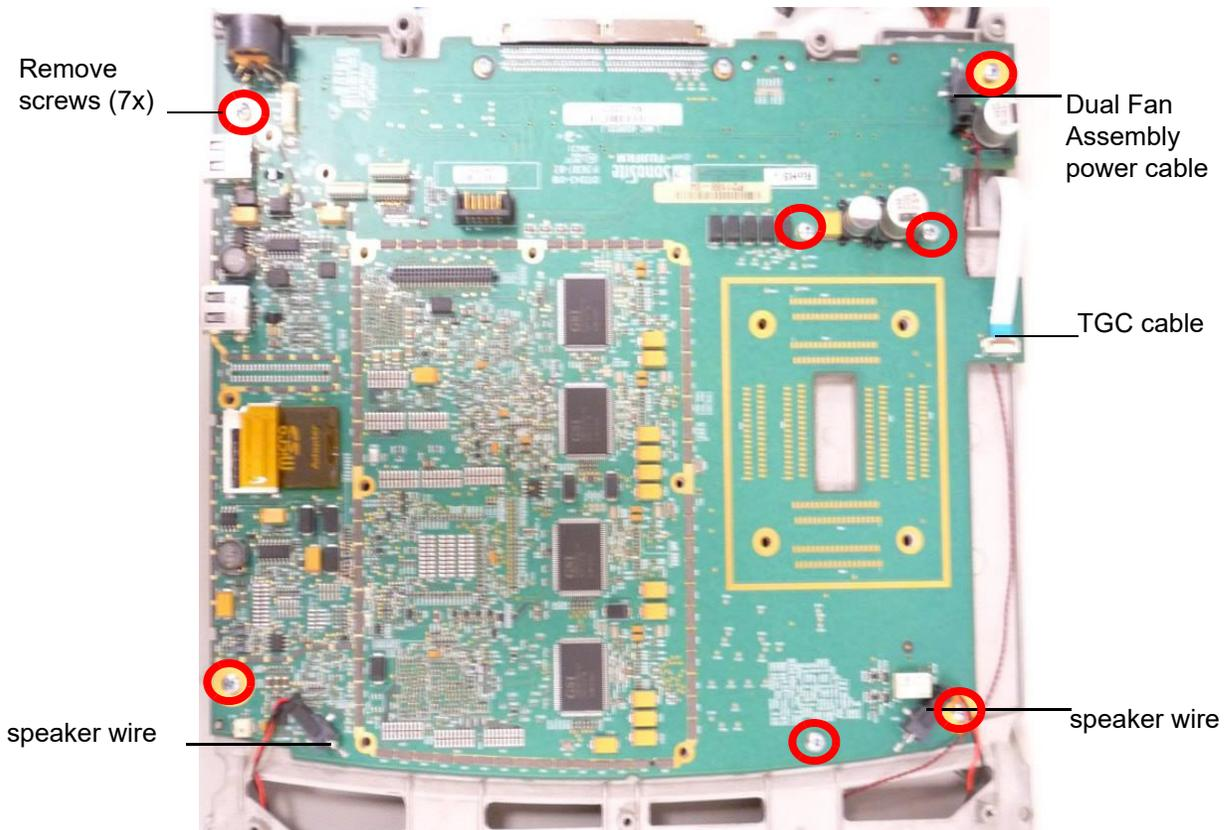

Figure 6.19 Main PCBA
- 5 Disconnect the power cable to the Dual Fan Assembly as shown in Figure 6.19.
- 8 Remove eight screws as shown in Figure 6.19.
- 1 Place Main PCBA on Mid-Frame and install seven screws as shown in Figure 6.19. Do not tighten the screws.